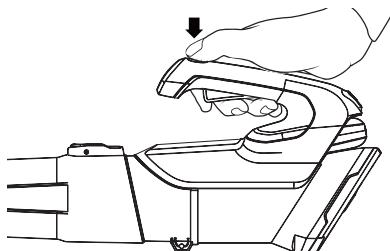

Fig. 6
- b. Short press the Max Speed Button to switch between High Speed and Max Speed modes. (Fig. 6)